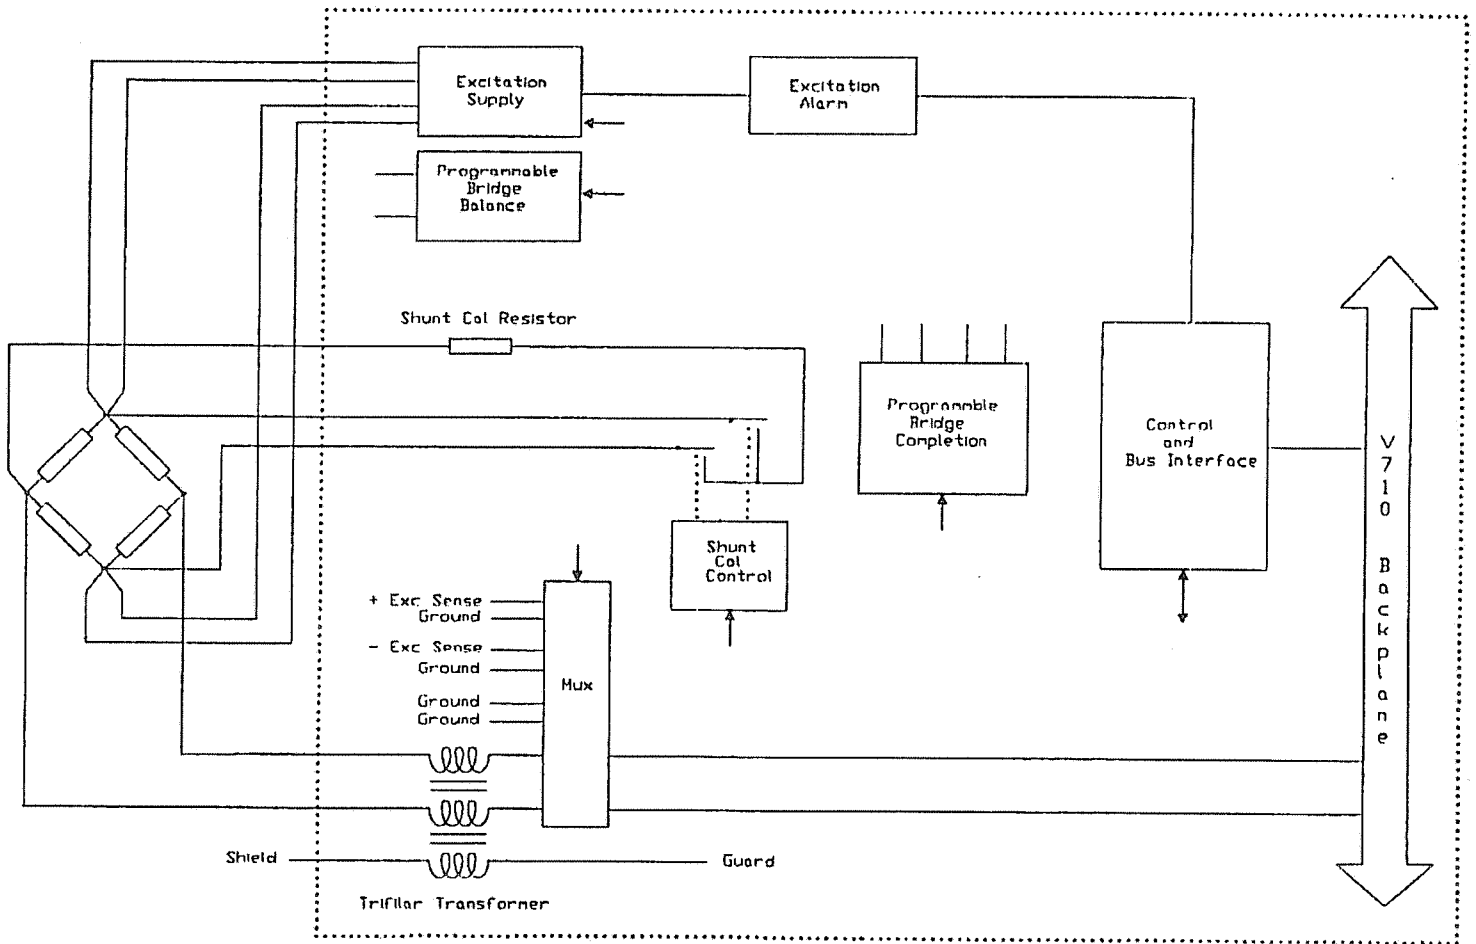

FIGURE 1 - SC20 2-Channel Bridge Signal Conditioner
The SC20 contains two (2) channels of bridge signal conditioning (Refer to Figure 1) with each channel supplying bridge completion circuitry and independent bridge excitation circuitry. When used with a V213 or V200 ADC module, anti-alias filtering and gain are as provided by that module. Optional trifilar transformers are available for noisy environments or where long input cabling is required. These transformers reduce RF and common mode voltages to the input of the SC20.